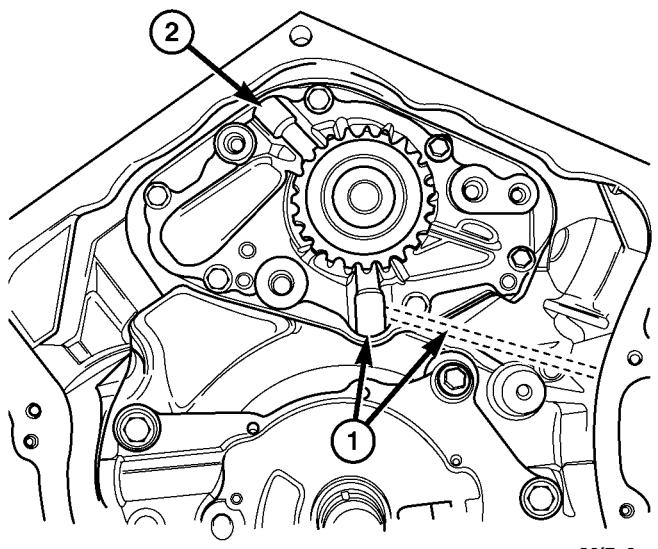
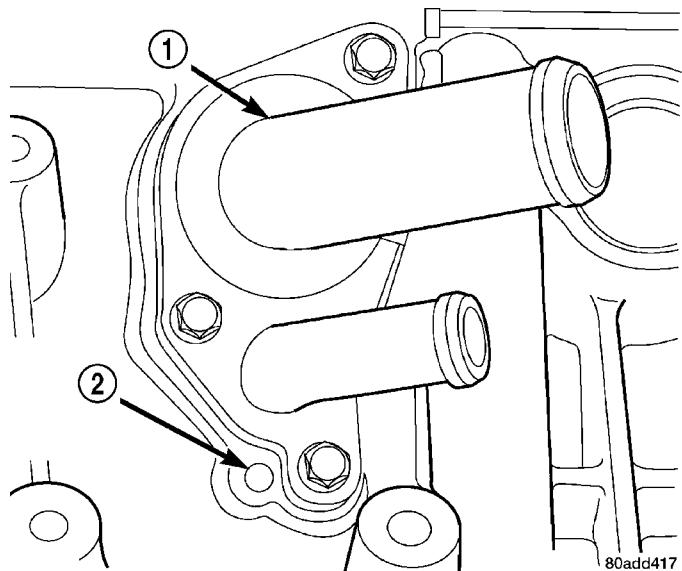
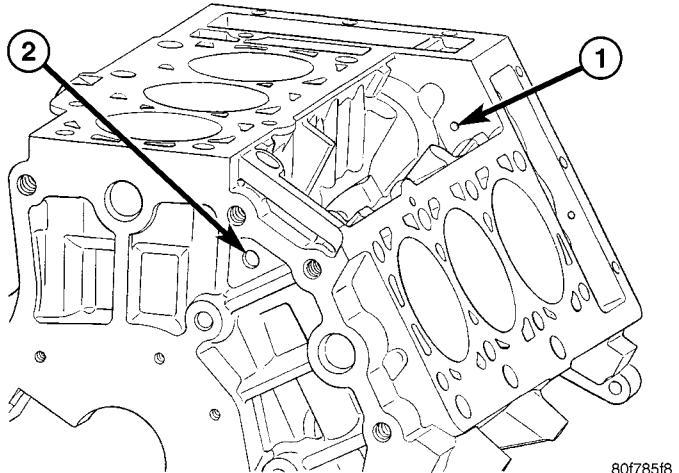

Fig. 28 Water Pump Weep Passages - 2.7L
Fig. 29 Primary Water Pump Weep Passage - 2.7L
Fig. 30 Secondary Water Pump Weep Passage - 2.7L
NOTE: It is normal for the water pump to weep a small amount of coolant from the primary weep hole (black stain at weep passage). Do not replace the water pump if this condition exists. Replace the water pump if a heavy deposit or a steady flow of engine coolant is evident from the primary weep passage (Fig. 28) and (Fig. 29). This indicates a shaft seal failure and pump must be replaced. Coolant may leak from the secondary weep passage and fill the valley of the engine (Fig. 28) and (Fig. 30). If this condition is found, clean the primary weep passage of debris. Be sure to perform a thorough analysis before replacing water pump.
- (1) Damage or cracks on the pump body.
- (2) Coolant leaks: If the shaft seal is leaking, this will be evident by traces of thick deposits of dried glycol running down from the pump primary weep passage (Fig. 28) and (Fig. 29). A thin black stain below the pump primary weep hole/passage is considered normal operation.
- (3) Coolant leaks: If the pump primary weep passage is plugged, coolant may come from the secondary weep passage and collect in the valley of the engine. The coolant will eventually run out the back side of the engine (Fig. 28) and (Fig. 30). Leakage from the secondary weep passage may give false indications that core plug(s) may be leaking on the back side of the engine block. If this condition is found, clean the primary weep passage of debris.
- (4) Impeller rubs inside of cylinder block.
- (5) Excessively loose or rough turning bearing.